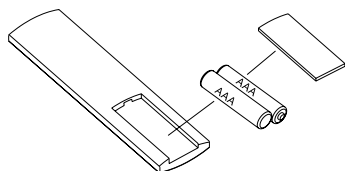

Fig.2
1. Place two AAA batteries to use the remote controller. (As shown in Fig. 2)